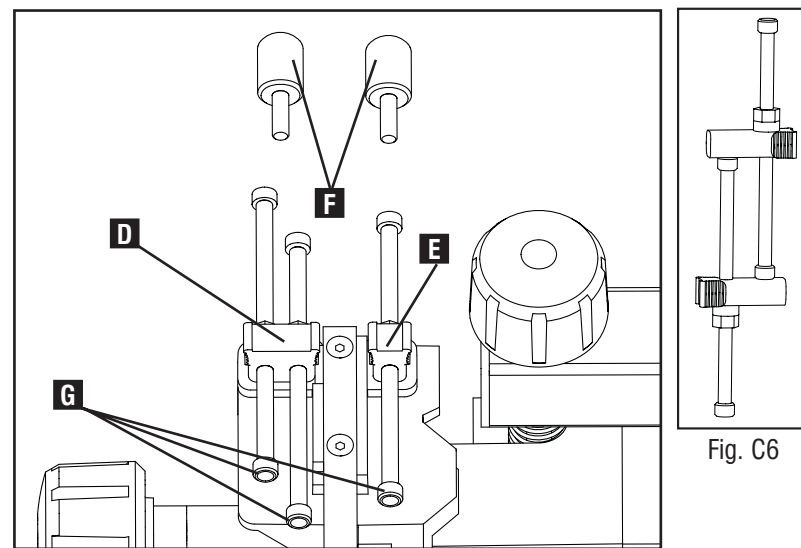
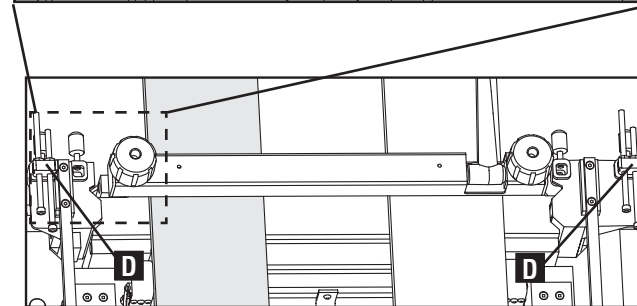

Fig. C6
Fig. C5
Setup for all joints includes the selection of either single or double stops (D and E) Fig. C5 included with your unit. Two stops are necessary - one for the left and one for the right of the OMNIJIG® - and enable the template to be pushed up against them and locked in place to set the template's position on the jig. The various stops are set to different lengths to accommodate the wide variety of applications that can be performed with the jig. For each application, the template must rest at a specific location on the jig before the cuts are made.
While all stops that come as standard with either the OMNIJIG® or template accessories are pre-set dimensionally, they can be adjusted to meet your own specific requirements. By adjusting the stop screws (G) Fig C5 forward or backward, the position of the template on the jig can be altered. When sizing the stops to your own specifications, you need to make sure that both stops (left and right) are set to the same dimensions. To do this, set one to your dimensions and then place both left and right stop together as shown in Fig. C6 and make sure the tips of the unset screw post hits the post on the properly sized stop, as shown.
**IMPORTANT:** Each pair of stops must be oriented left and right on the jig, so that the labels on the stops are readable as you look at the jig from the front. The 'left' stop is therefore placed to your left for example. The knurled knobs (F) Fig C5, must be added and tightened to the back of the jig once the template stops are in place. Their purpose is to firmly hold the template stops in the jig to ensure that the template is positioned correctly. The stops are able to move if the knobs are not appropriately tightened, which in turn can allow the template to be misaligned. An ill-fitting joint can result.